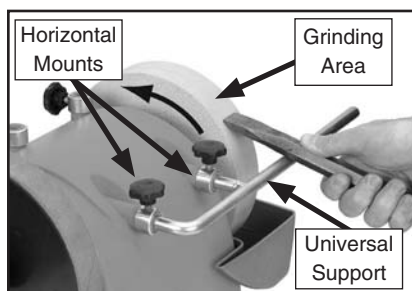

Figure 7. Horizontal mount.
3. Attach the universal support into the horizontal mounts as shown in **Figure 7**. Be sure it is securely positioned and will not move during grinding. Reconnect the grinder to power.